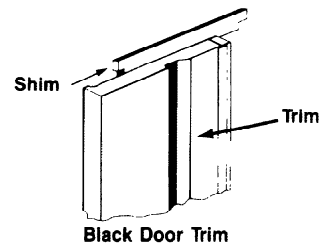
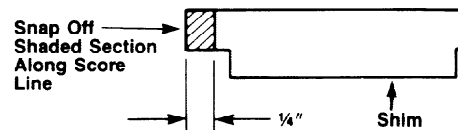

FIGURE 78
FIGURE 79
5. **NOTE:** On models having black handles and trim it will be necessary to modify a small black plastic shim located behind the top end of the upper trim piece on the handle side of the door. Remove shim by sliding part to the right. See Figure 78, modify per Figure 79, then reinstall shim by simply sliding it back into place. See Figure 80.